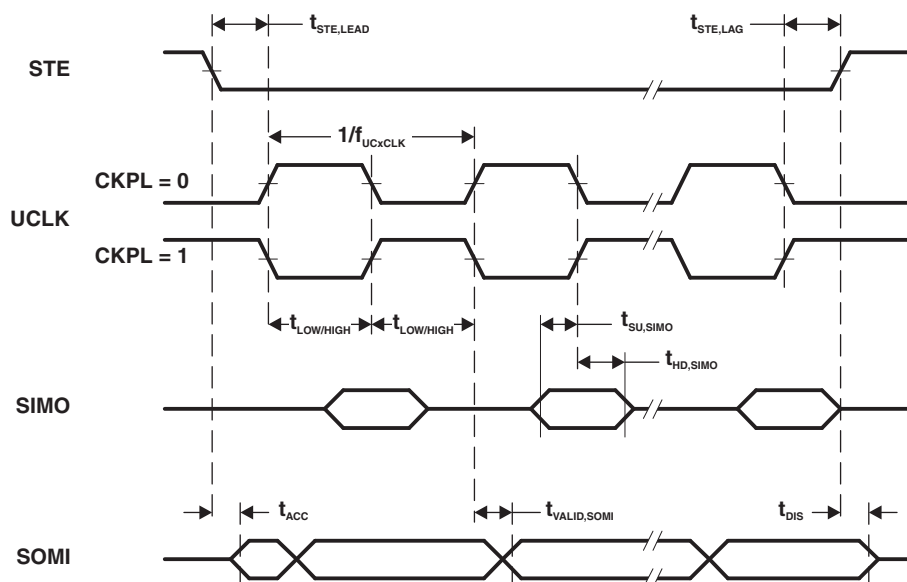
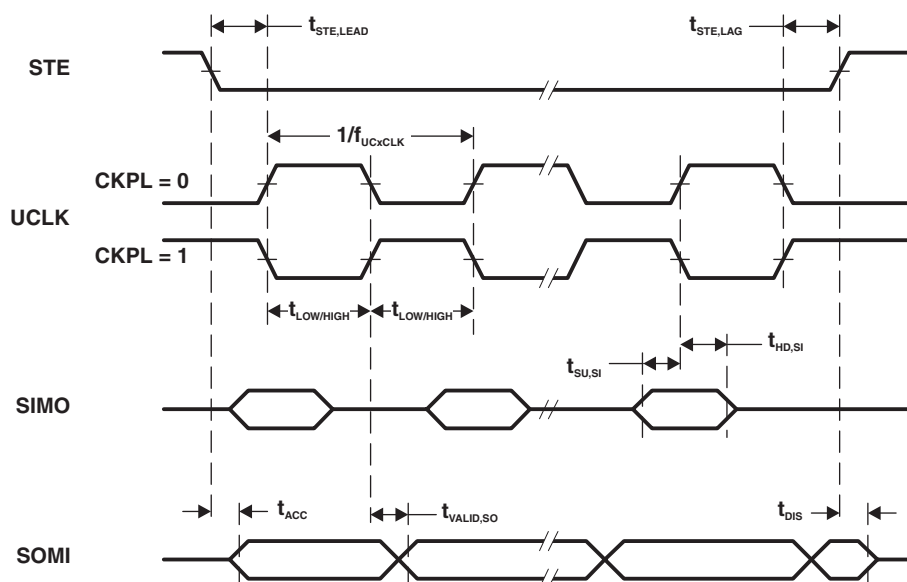

Figure 5-14. SPI Slave Mode, CKPH = 0
Figure 5-15. SPI Slave Mode, CKPH = 1
(2) Specifies the time to drive the next valid data to the SOMI output after the output changing UCLK clock edge. Refer to the timing diagrams in Figure 5-14 and Figure 5-15.
(3) Specifies how long data on the SOMI output is valid after the output changing UCLK clock edge. Refer to the timing diagrams in Figure 5-14 and Figure 5-15.